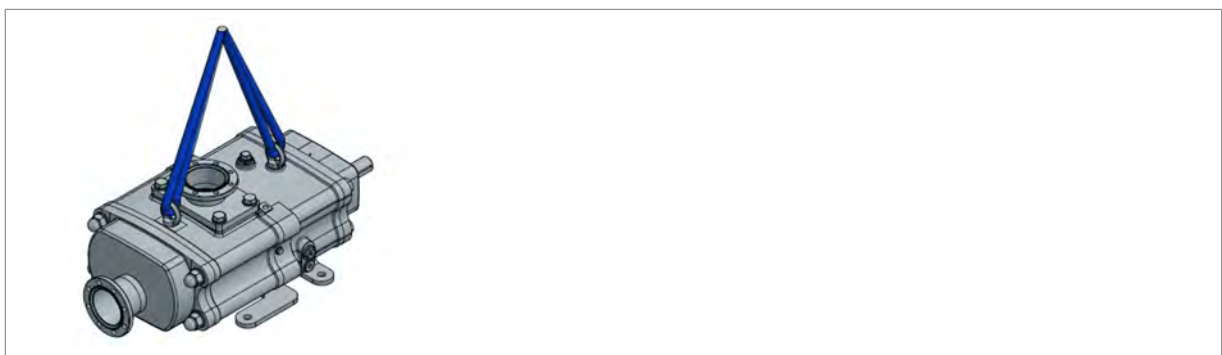

Fig. 7: Lifting the pump with lifting lugs
2. ➤ Fasten cables, straps or multi-point hangers in accordance with Fig. 7.